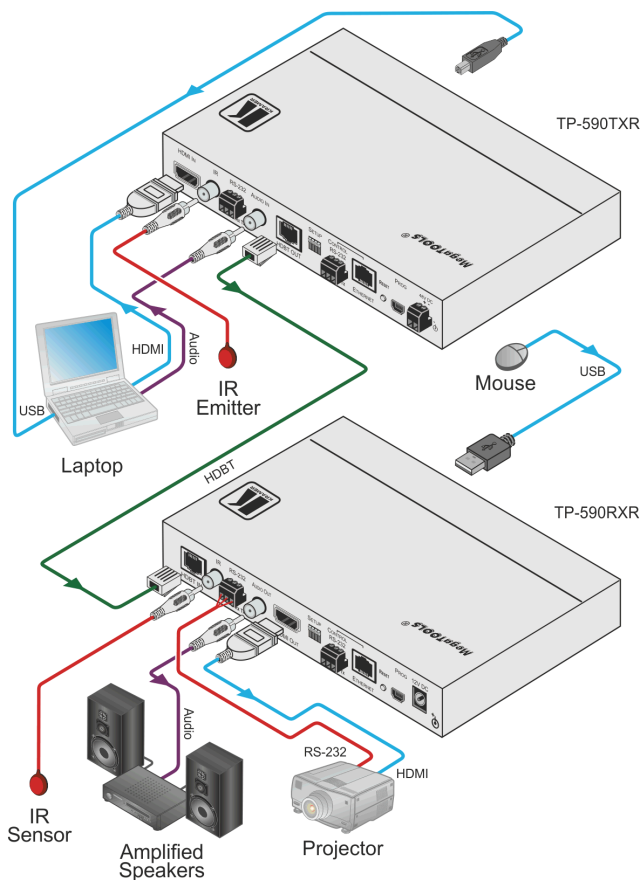

Figure 3: Connecting the TP-590Rxr HDMI Line Receiver
You can use the **TP-590Rxr HDMI Line Receiver** and a compatible transmitter, (for example, the **TP-590Txr HDMI Line Transmitter**) to configure an HDMI transmitter/receiver system, as shown in the example in Figure 3.
To connect the TP-590Rxr HDMI Line Receiver as shown in Figure 3:
12. If power is not supplied by the transmitter via PoE (see Section 3.2), connect the supplied power adapter to the power socket and plug the adapter into the mains electricity (not shown in Figure 3).